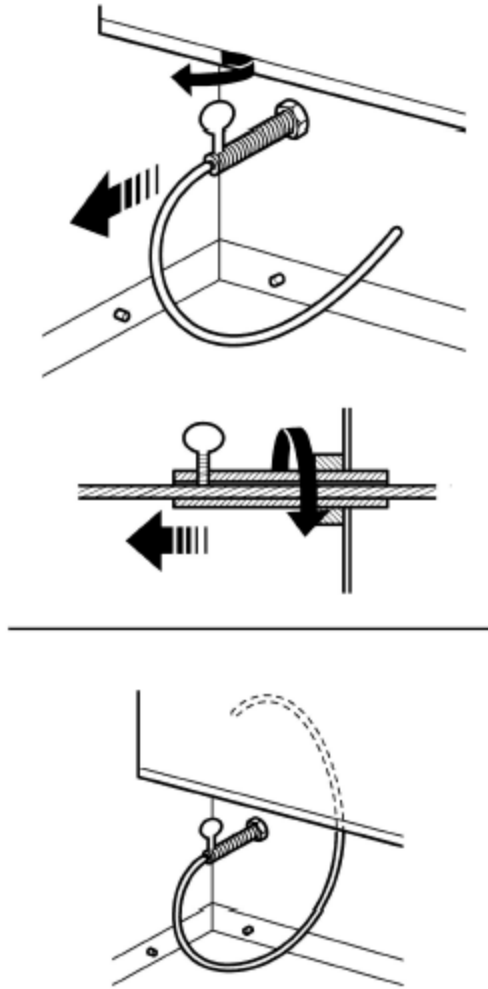

Figure 22. Lower cable retention
11. Pull each cable taut. Push the cable retainers hard up against the back panel. The end of the cable adjuster will pass into the hole. Tighten the screws in the retainers so that they clamp the cables in position. Apply tension to the cables by turning the hexagonal adjusters by hand (See figure 22).
14. Feed the free length of the cables into the gap between the inner and outer back panels so that they are available to allow easy removal and refitting of the appliance during subsequent service calls. ***Do not cut off the free lengths of cable*** (See figure 22).